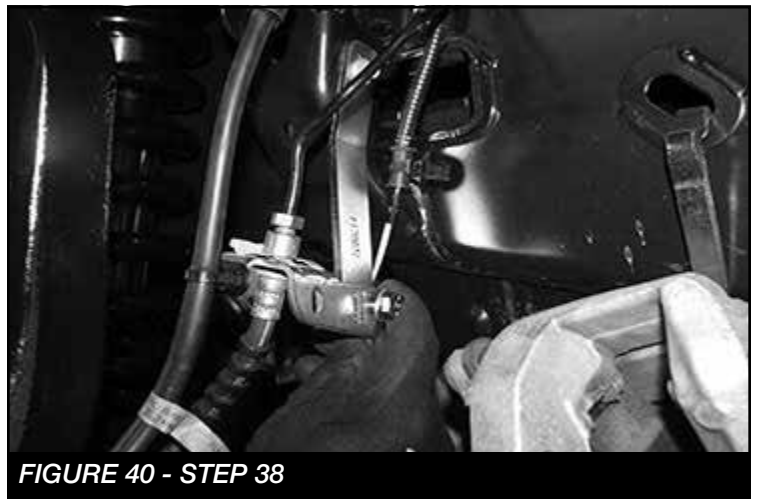

**FIGURE 38 - STEP 37**
37. Install the dust shield and torque to 14 ft-lbs. Install CV shaft nut and torque to 35 ft-lbs. Install the factory dust cover. **SEE FIGURE 38**